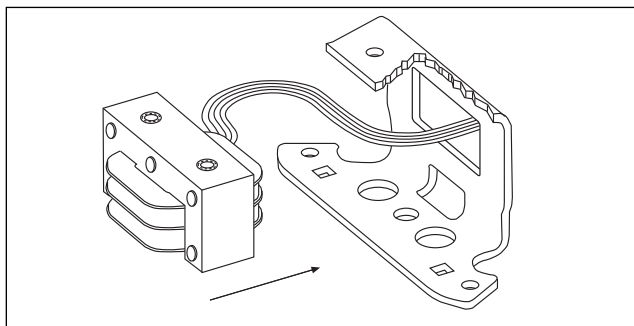

Figure 4.
- Replace shock mount and magnet, feeding coil wires through hold in back of bracket (25B) as shown in Figure 4. Tighten mounting screws with 55 to 60 lb. in. torque.